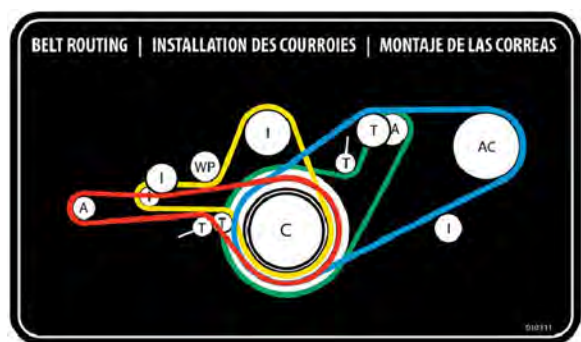

FIGURE 23: COACH BELT ROUTING – DELCO-REMY VARIANT
2. Pry the automatic belt tensioner arm and check for a play between the arm and the spring case (**FIGURE 23**).